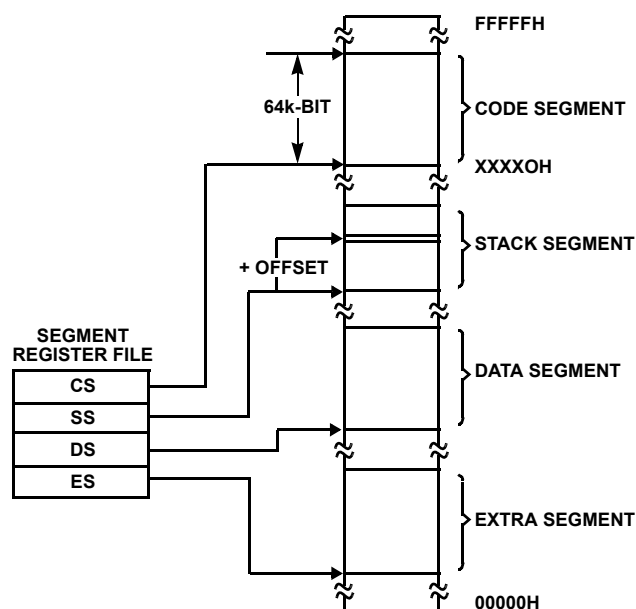

FIGURE 2. 80C86 MEMORY ORGANIZATION
The processor provides a 20-bit address to memory, which locates the byte being referenced. The memory is organized as a linear array of up to 1 million bytes, addressed as 00000(H) to FFFFF(H). The memory is logically divided into code, data, extra, and stack segments of up to 64k bytes each, with each segment falling on 16-byte boundaries (see Figure 2).